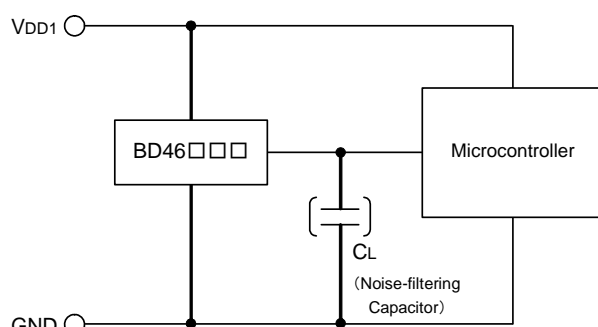

Fig.19 CMOS Output Type
Use CMOS output type (BD46□□□G) or open drain output type (BD45□□□G) attached a load resistance (RL) between the output and VDD1. (As shown Fig.19)